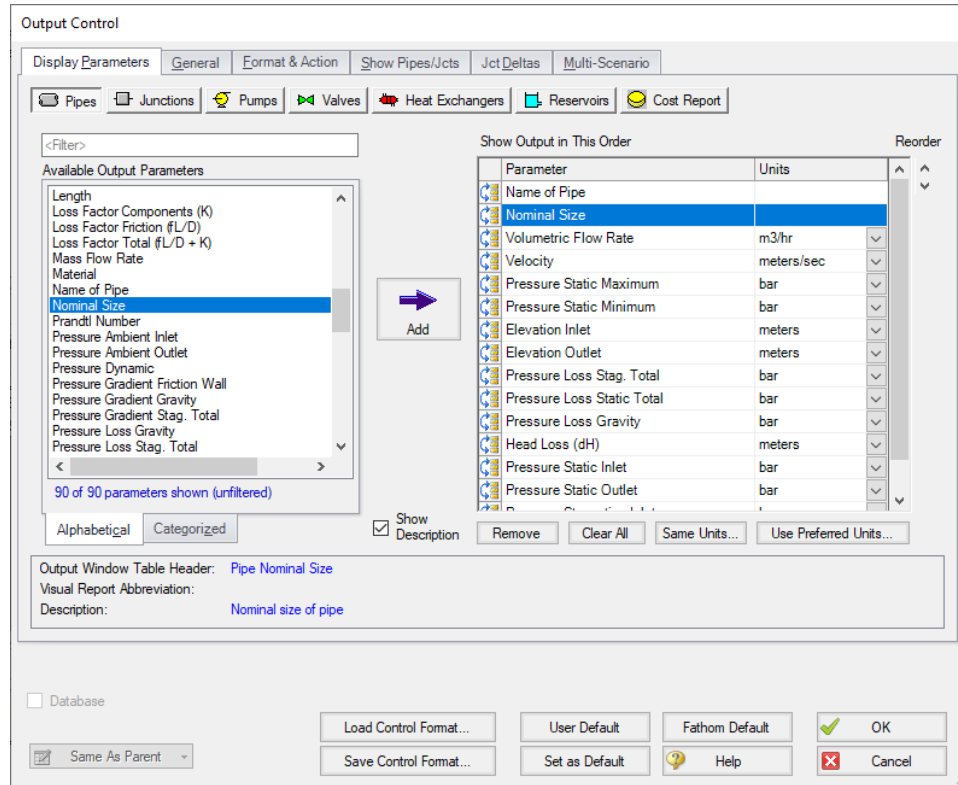

Figure 2: Output Control Window
3. Use the Reorder buttons (in the upper right) to move the Nominal Size up so that it becomes the second parameter in the list (see Figure 2).